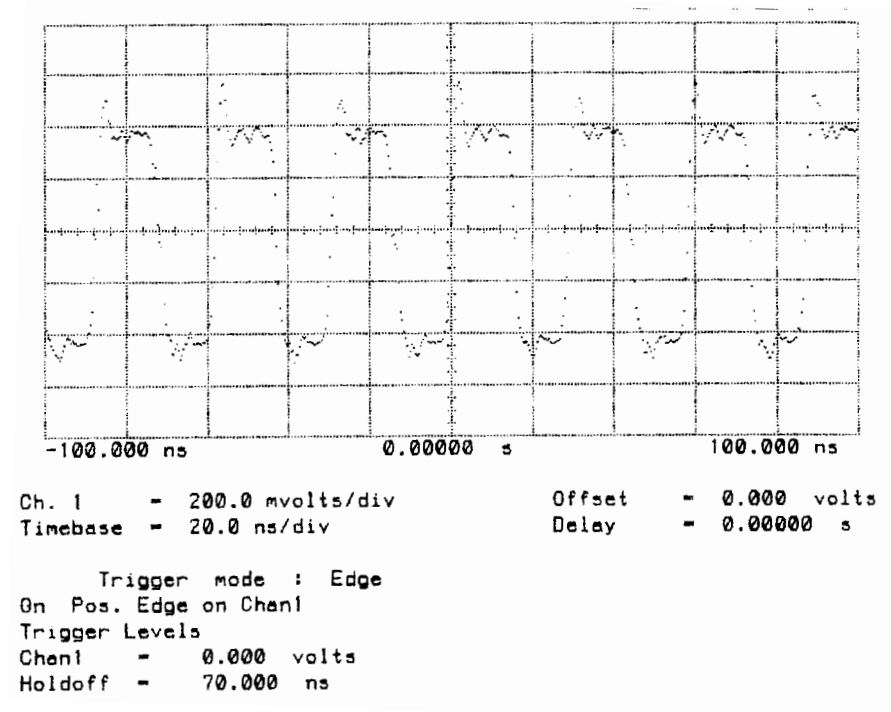

Figure 3-30 Recovered 34 MHz Clock
- Verify the waveform shape as shown in Figure 3-30, "Recovered 34 MHz Clock".